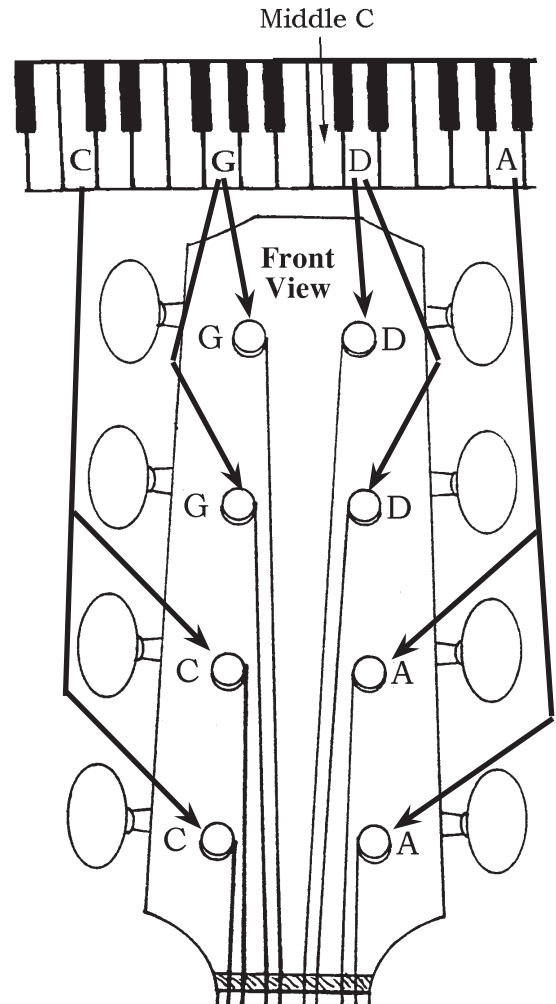

FIGURE 5
**CAUTION:** The correct way to turn the buttons is to make the string fall to the inside of the peghead, as shown in figure 5. If you don't turn them properly, the strings will rub against neighboring posts and be difficult to tune.